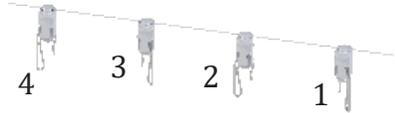

Figure 2.6.1 - Hook or snap drapery onto carriers
6.1 - Snap or hook the drapery into each carrier starting with the master carrier arm and ending with the hardstop and control end. See Figure 2.6.1.